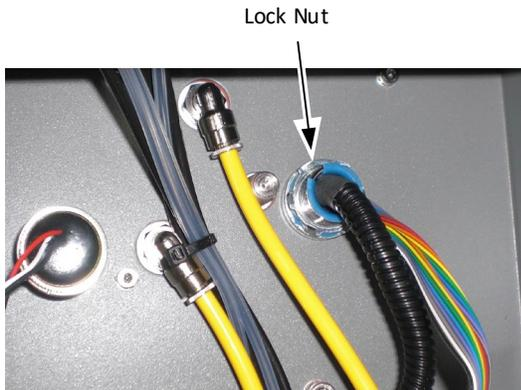

Fig. 6.7. EPC Cable Lock Nut
- On the wall inside the left side of the oven, remove the lock nut on the pipe nipple which retains the EPC Panel cables (see Figure 6.7).